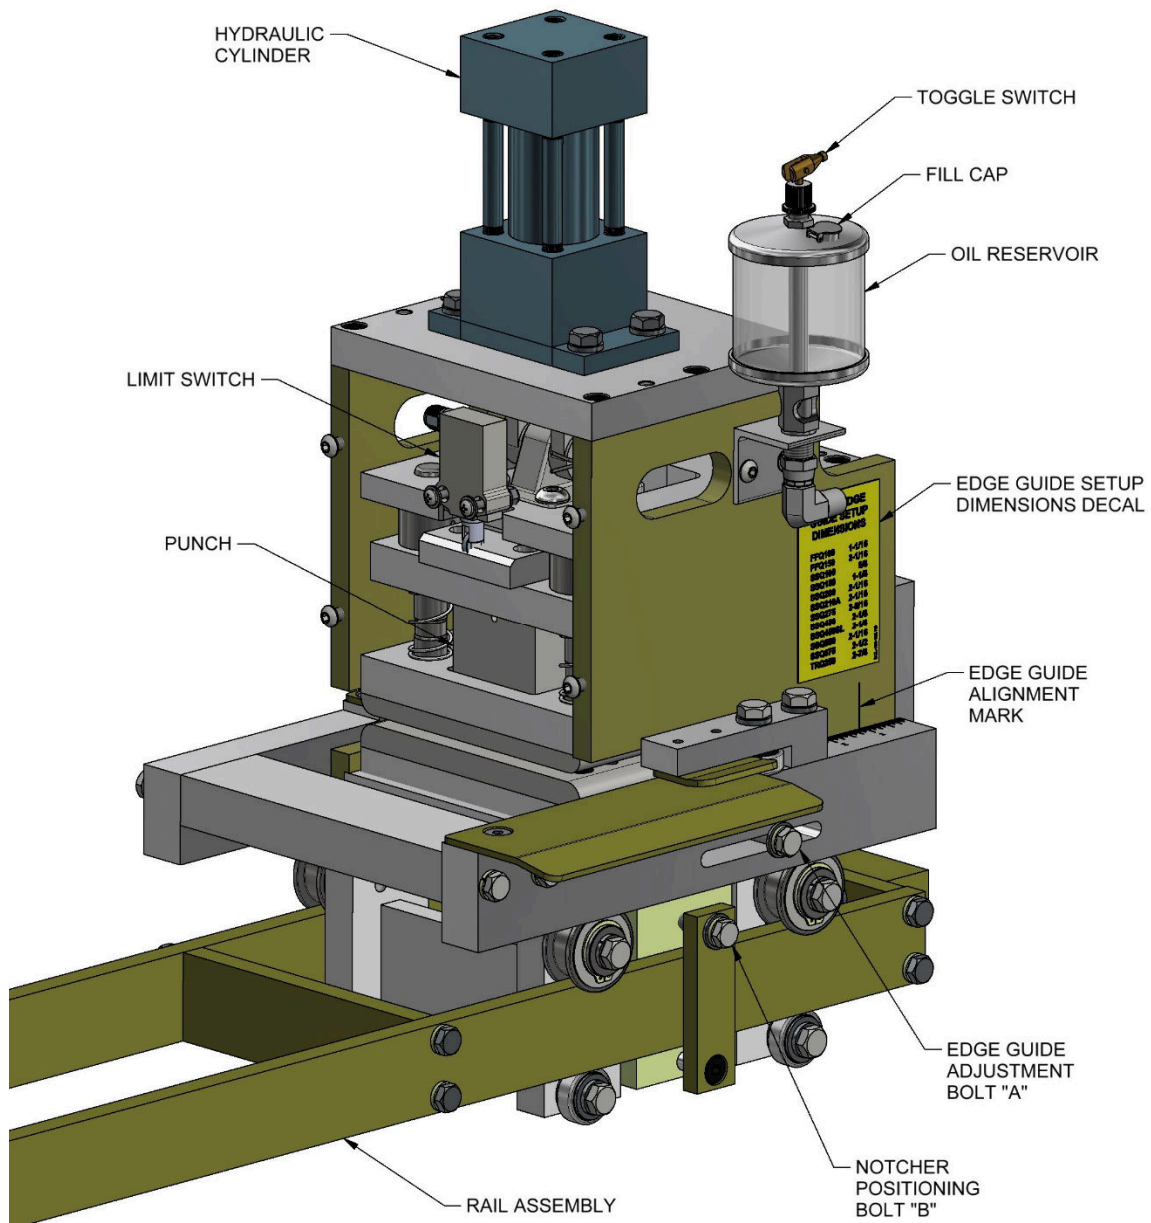
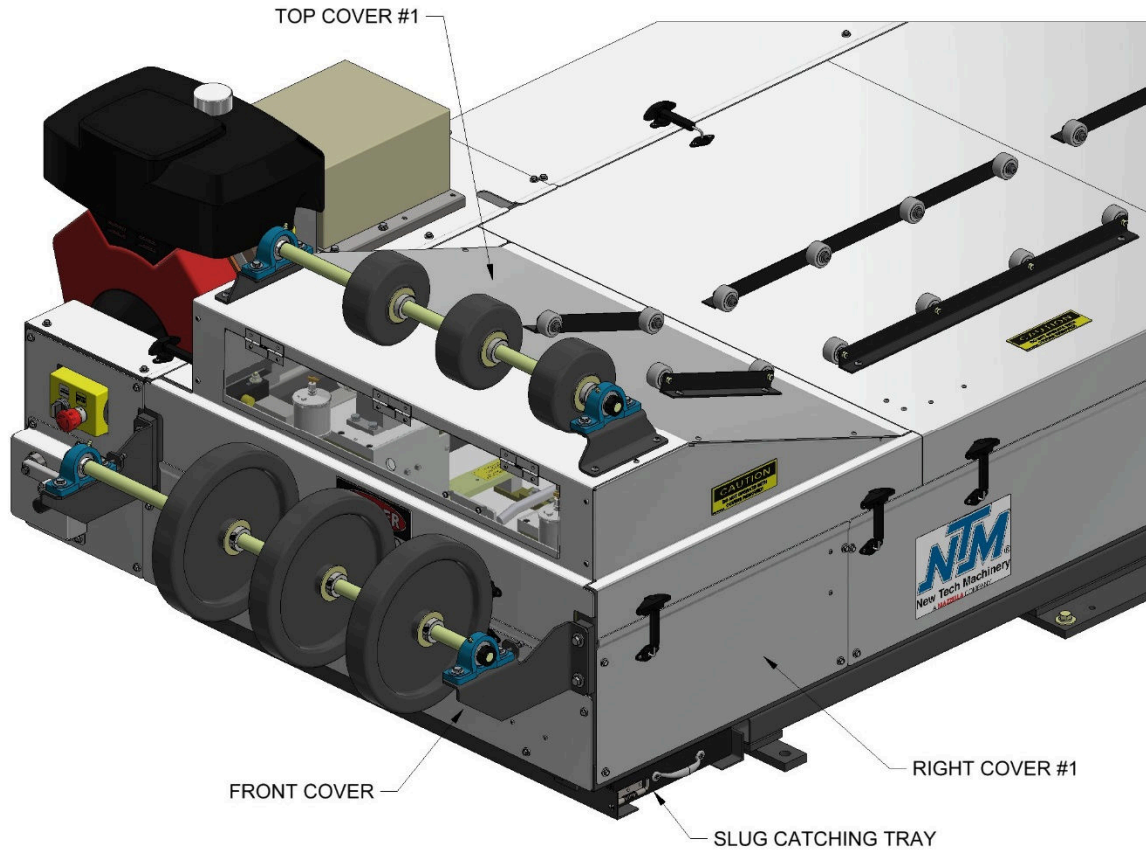

Figure 77: Notcher Overview #1
Figure 80: Notcher Covers
12. To align the Right Entry Guide, loosen the Lock Down Handle on the Right Entry Guide (Figure 45). Slide the entry guide to the left or right until the Entry Guide Alignment Notch is directly under one of the notches on the Tooling Rail Marker Plate. Make sure to choose the notch on the Marker Plate that corresponds to the desired leg configuration as noted on the decal on the top of the Marker Plate (Figure 46). **Note: If you have a Notcher System installed you would instead loosen the Notcher Positioning Bolt "B" on the right notcher, slide it left or right until the marker lines up with the tooling, and retighten the bolt (see Figure 77).**
14. Loosen the Lock Down Handle on the left entry guide. **Note: For notcher systems loosen the Notcher Positioning Bolt "B" on the left notcher (see Figure 77).**
16. Slide the Left Entry Guide to the left or right to accept the new coil width. Make sure that the material is captured snugly between the entry guides and re-tighten the Lock Down Handle. **Note: For notcher systems slide the Left Notcher left or right to capture the material then tighten the Notcher Positioning Bolt “B” (see Figure 77).**
4. Loosen the Notcher Positioning Bolt "B" on the left Notcher (see Figure 77). Slide the left Notcher left or right as needed and insert the piece of coil into the Notchers.
(Refer to Figure 77 through Figure 80)
2. Remove Top Cover #1, Right Cover #1, and the Front Cover as shown in Figure 80.
6. Loosen the Edge Guide Adjustment Bolt “A” (see Figure 77).
(see Figure 77 and Figure 78)